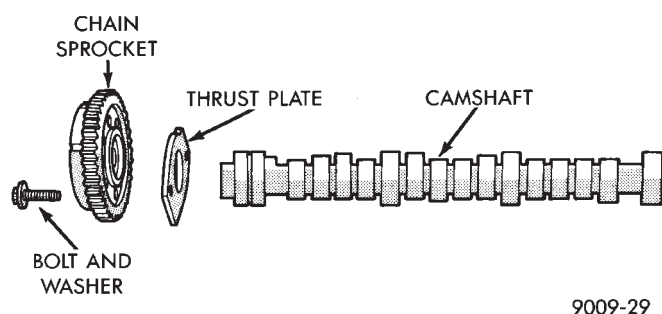
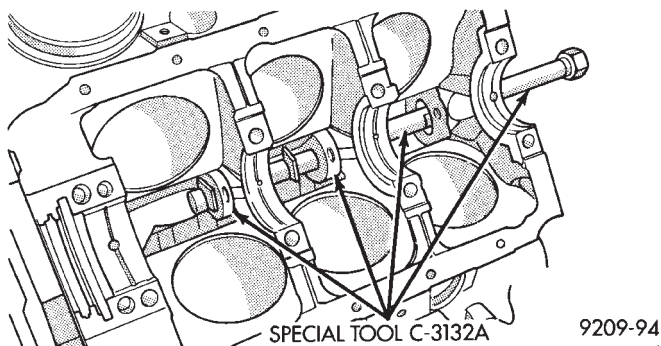

Fig. 10 Camshaft and Sprocket Assembly
Fig. 12 Removed Installation of Camshaft Bearings with Tool C-3132A—Typical
- (2) Install camshaft thrust plate with two screws as shown in (Fig. 10). Tighten to 12 N•m (105 in. lbs.) torque.
- (3) Rotate crankshaft so the timing arrow is to the 12 O'clock position.
- (4) Place timing chain around camshaft sprocket and place the timing arrow to the 6 O'clock position.
- (5) Align the dark colored links with the dot on the camshaft sprocket, place timing chain around crankshaft sprocket with the dark colored link lined up with the dot on sprocket and install camshaft sprocket into position.
- (6) Using straight edge to check alignment of timing arrows (Fig. 12).
- (7) Install the camshaft bolt. Tighten bolt to 54 N•m (40 ft. lbs.).
- (8) Rotate crankshaft 2 revolutions. Timing marks should line up. If timing marks do not line up, remove cam sprocket and realign.
- (9) Measure camshaft end play. End Play should measure .0127 to .304 mm (.005 to .012 inches.) .310 mm (.012 inch. Max.). If not within limits install a new thrust plate.
- (10) Each tappet reused must be installed in the same position from which it was removed. **When camshaft is replaced, all of the tappets must be replaced.**
(1) With engine completely disassembled, drive out rear cam bearing core hole plug.
(2) Install proper size adapters and horseshoe washers (part of Tool C-3132-A) at back of each bearing shell to be removed and drive out bearing shells (Fig. 12).